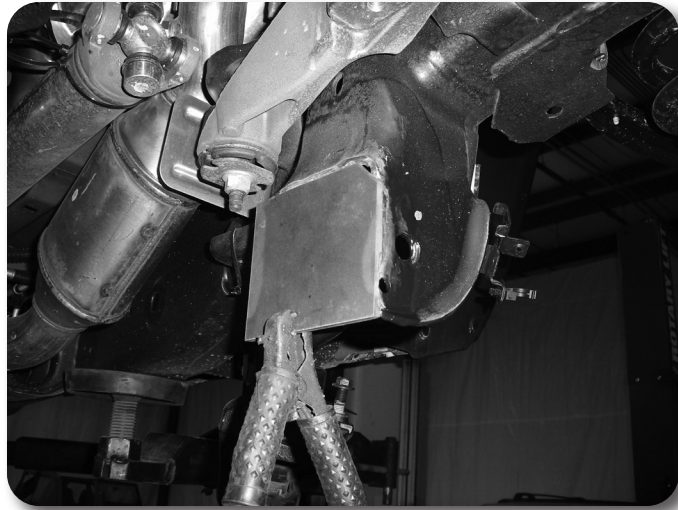

Figure 16
27. Place the provided weld-in plate up against the cut edge of the control arm pocket. The plate should be flush with the bottom edge of the pocket and overhang the front and back outside surfaces an equal amount. The chamfered corner of the plate should be in the top-front position Figure 16. Tack weld the plate in place.